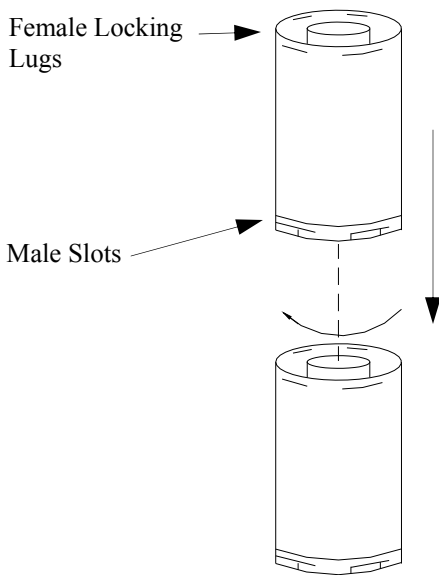

Figure 20— Rigid Vent Pipe Connections
WARNING: For direct vent designs, proper reassembly and resealing of the vent-air intake system. (see figure 20) Seal all vent connections. Seal only the outer pipe connections with high temperature silicone (600°F/316°C). Before joining elbows and pipes, apply a bead of high temperature silicone sealant (GERTV 106/Locktite RTV81585) to the male end of the elbow or pipe. High temperature silicone must be used to re-seal any connections after maintenance to venting system.
Twist-lock Procedure: The female ends of the pipes and fittings have three locking lugs (indentations). These lugs will slide straight into matching slots on the male ends of adjacent pipes and fittings. (All connections must be sealed with high temperature silicone sealant as specified in the second warning statement on page 9). Push the pipe sections together and twist one section clockwise approximately one-quarter turn until the sections are fully locked. See Figure 20, on following page. **Note:** Horizontal runs of vent must be supported every three feet. Use wall straps for this purpose.
2. Assemble the desired lengths of pipe and elbows necessary to reach from the burner system flue up through the firestop. All connections must be sealed with high temperature silicone sealant as specified. Be sure all pipe and elbow connections are fully twist-locked (see Figure 20, page 11).